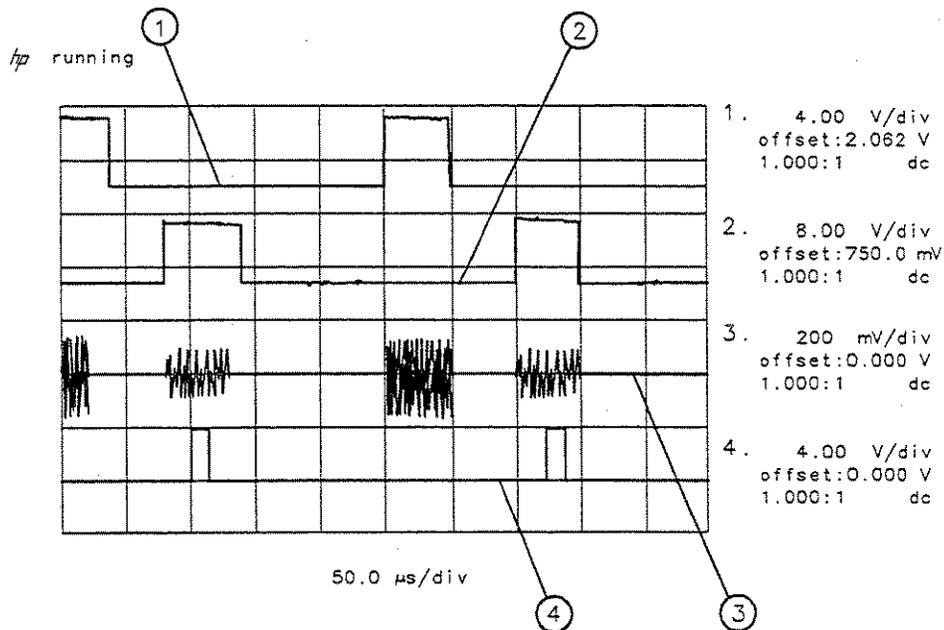

Figure 2-61. Placing the Gate Output During the Second Signal
- To view the second signal, change the gate delay so that the gate output is under the second signal. Since the second signal had a signal delay of approximately $85 \mu\text{s}$, we set the gate delay to $85 \mu\text{s}$ plus the pulse width/2, or $110 \mu\text{s}$. Press **[SWEEP]**, **[GATE MENU]**, $110 \mu\text{s}$ to set the gate delay to $110 \mu\text{s}$. Using an oscilloscope can be helpful in placing the gate output during the pulsed signal. See Figure 2-61.